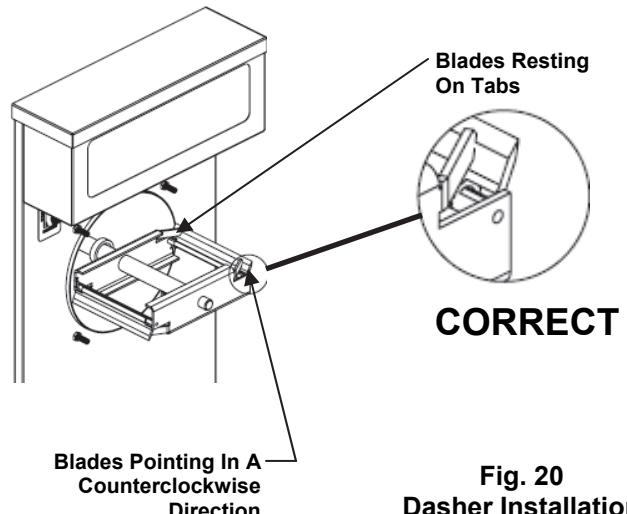

**Fig. 18
- e. (108 Only) Install the scraper blades onto the dasher assembly by holding the blades perpendicular to the tabs (Fig. 17) and then snapping them over the flat area of the support rod. Then rotate the blades downward in a counterclockwise direction as viewed from the front of the dasher (Fig. 18). **BE CERTAIN THAT THE SCRAPER BLADES REST UPON THE DASHER TABS.**